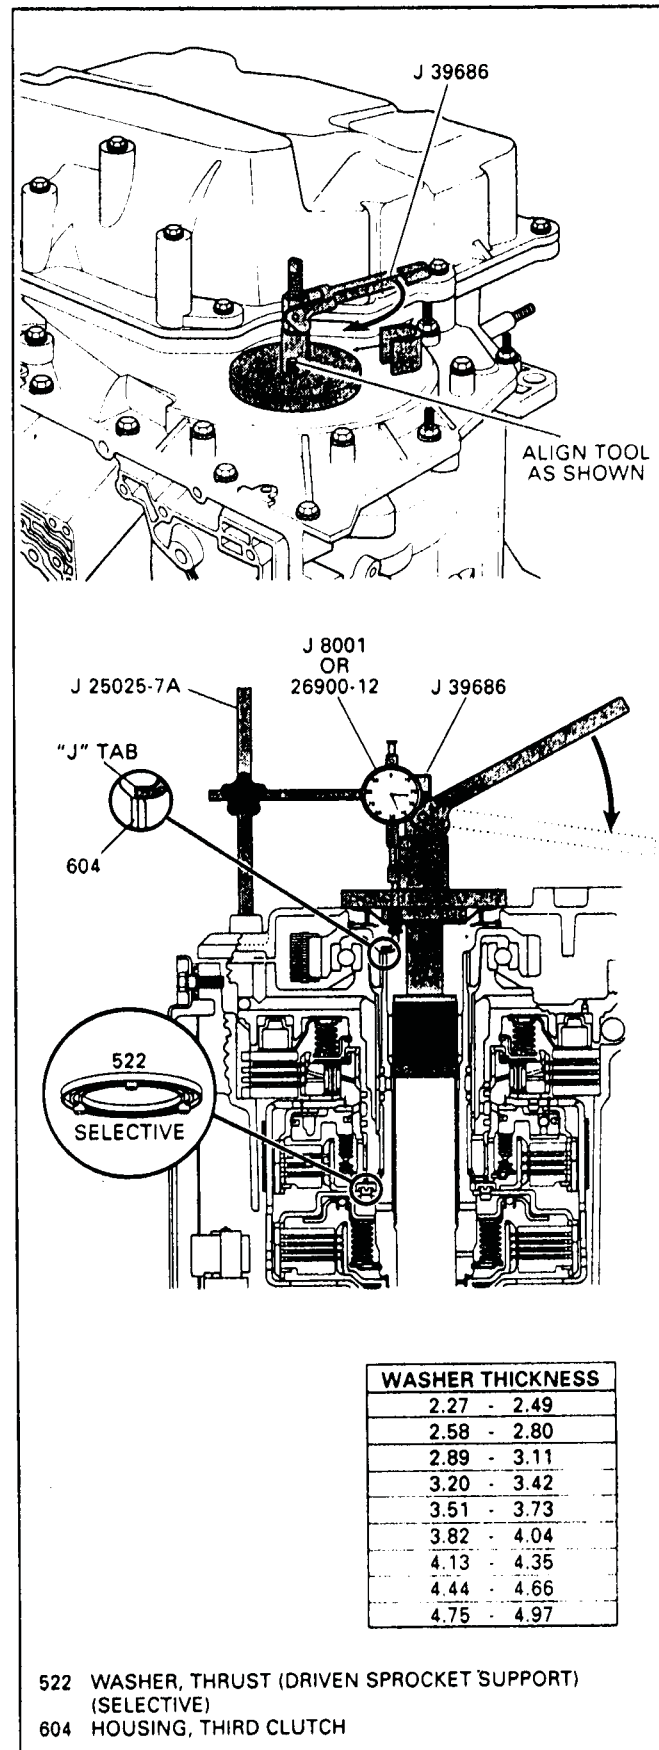

Figure 48
1. Install end play tool J-39686 into the case barrel as shown in Figure 48.
2. Locate the "J" tab on end play tool on top of input shaft as shown in Figure 48.
3. Tool J-39686 must rest flat on case cover seal as shown in Figure 48.
4. Rotate threaded shaft clockwise until tight (See Figure 48).
5. Insert collar between flange and the handle of end play tool as shown in Figure 48.
6. Install dial indicator as shown in Figure 48, with tip of dial indicator resting on top of tab.
10. If the specification is out of range determine the proper selective washer using the chart in Figure 48.